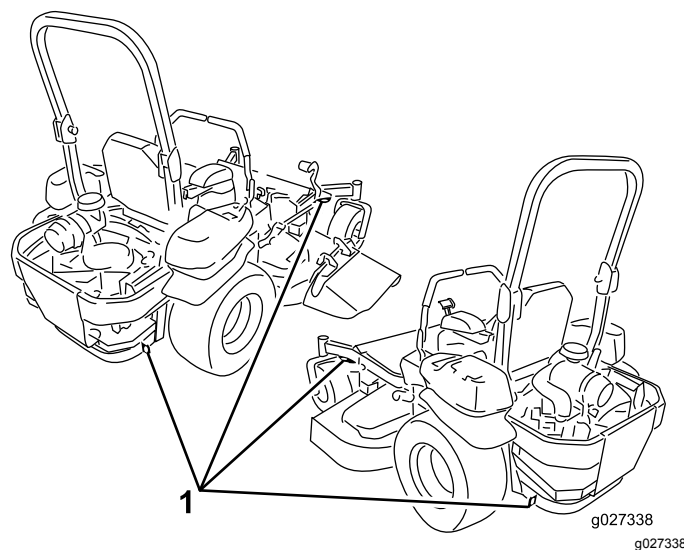

Figure 34
5. Use the metal tie-down loops on the machine to securely fasten it to the trailer or truck with straps, chains, cable, or ropes (Figure 34).